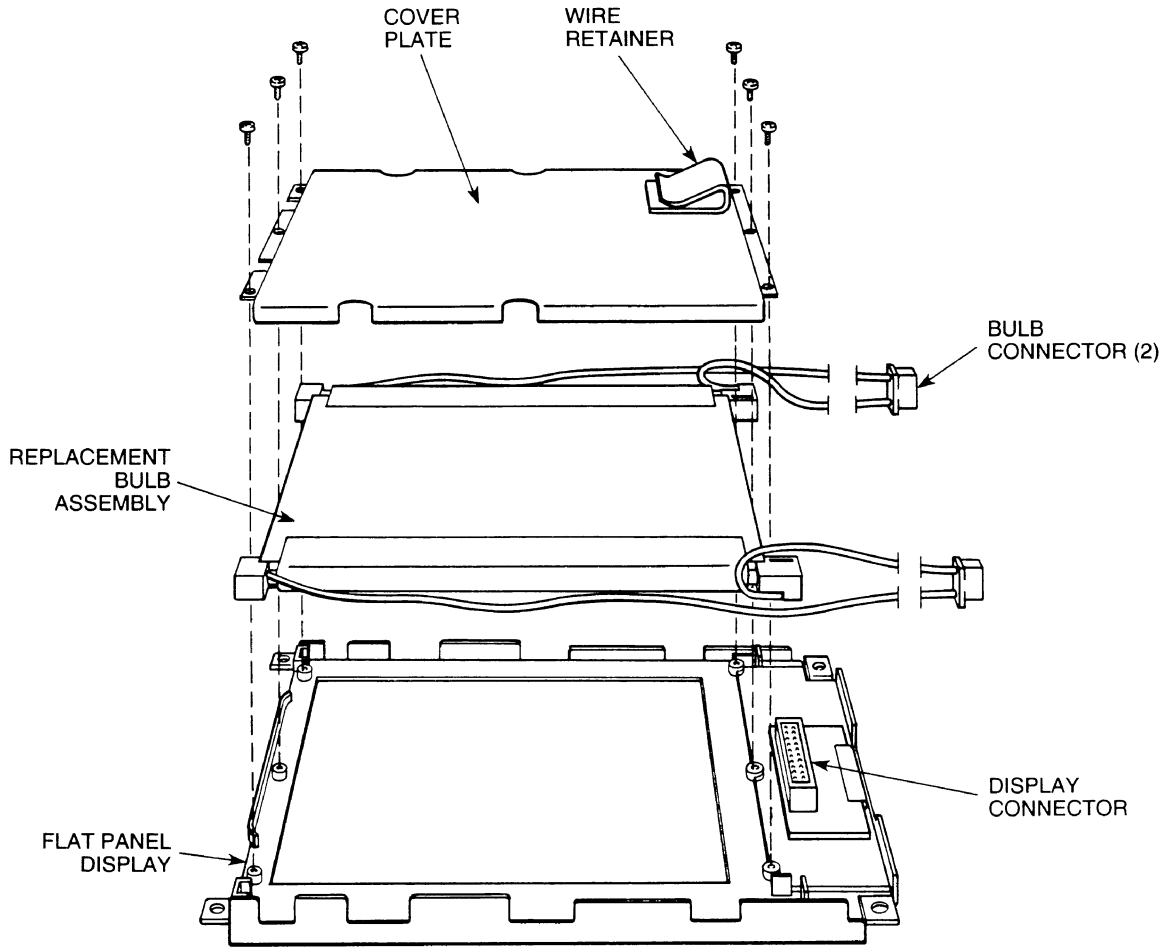

Figure 12. Color Bulb Removal from Flat Panel Display
9. Remove flat panel display and pull off the two ground clips (Figure 12).
10. Lay down the flat panel display and remove the white display bulb wires from the cable clamp. Remove the six screws holding the metal display plate and lift off the metal plate (Figure 12).